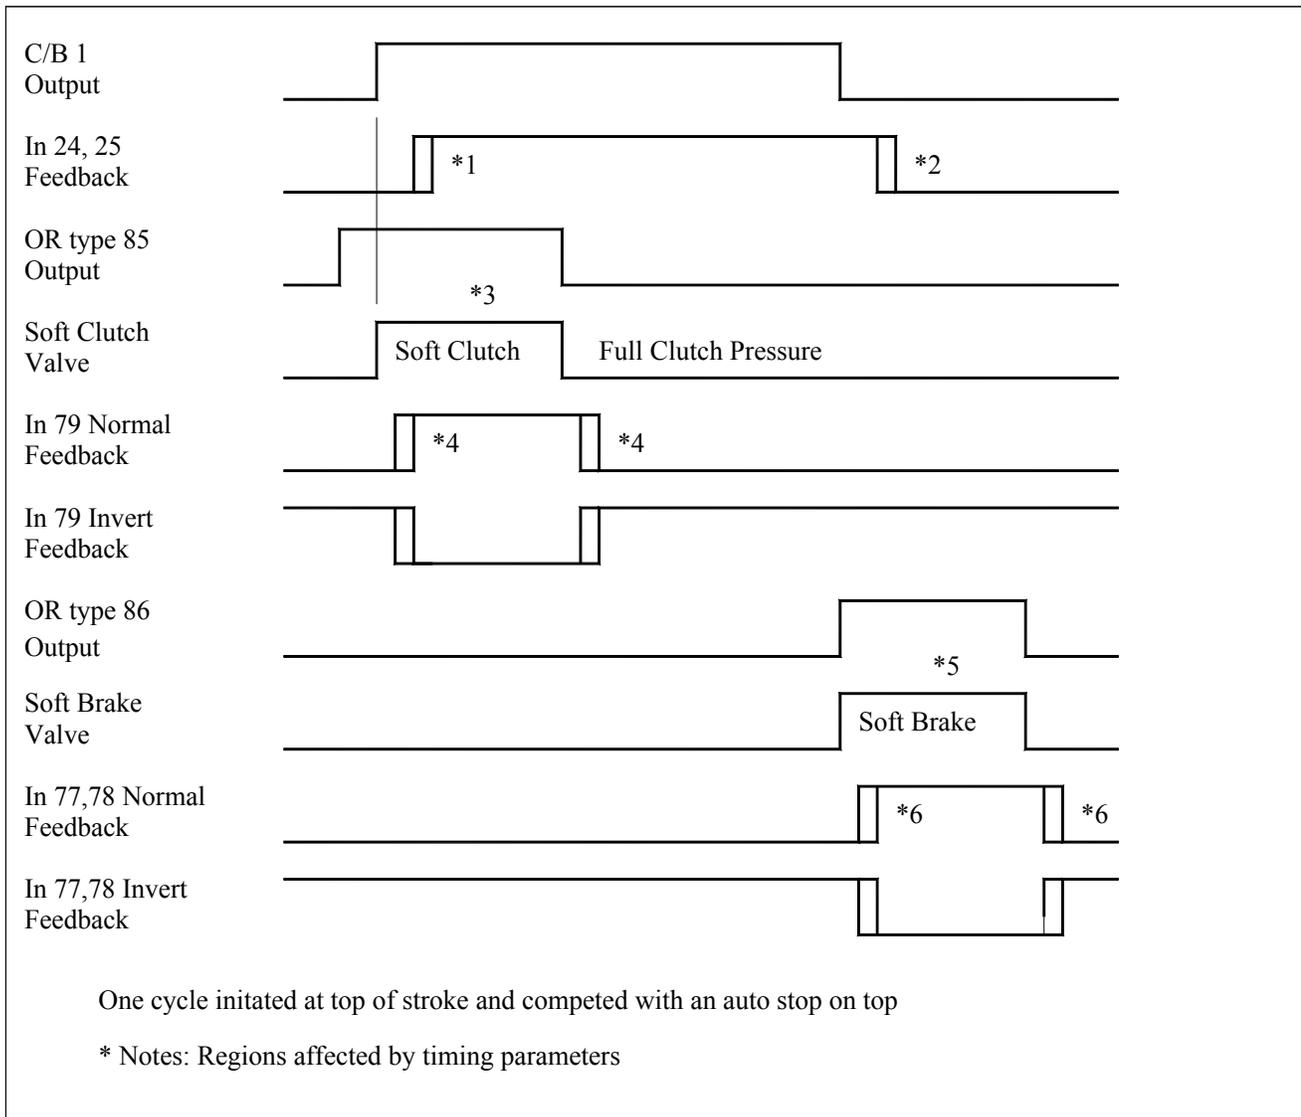
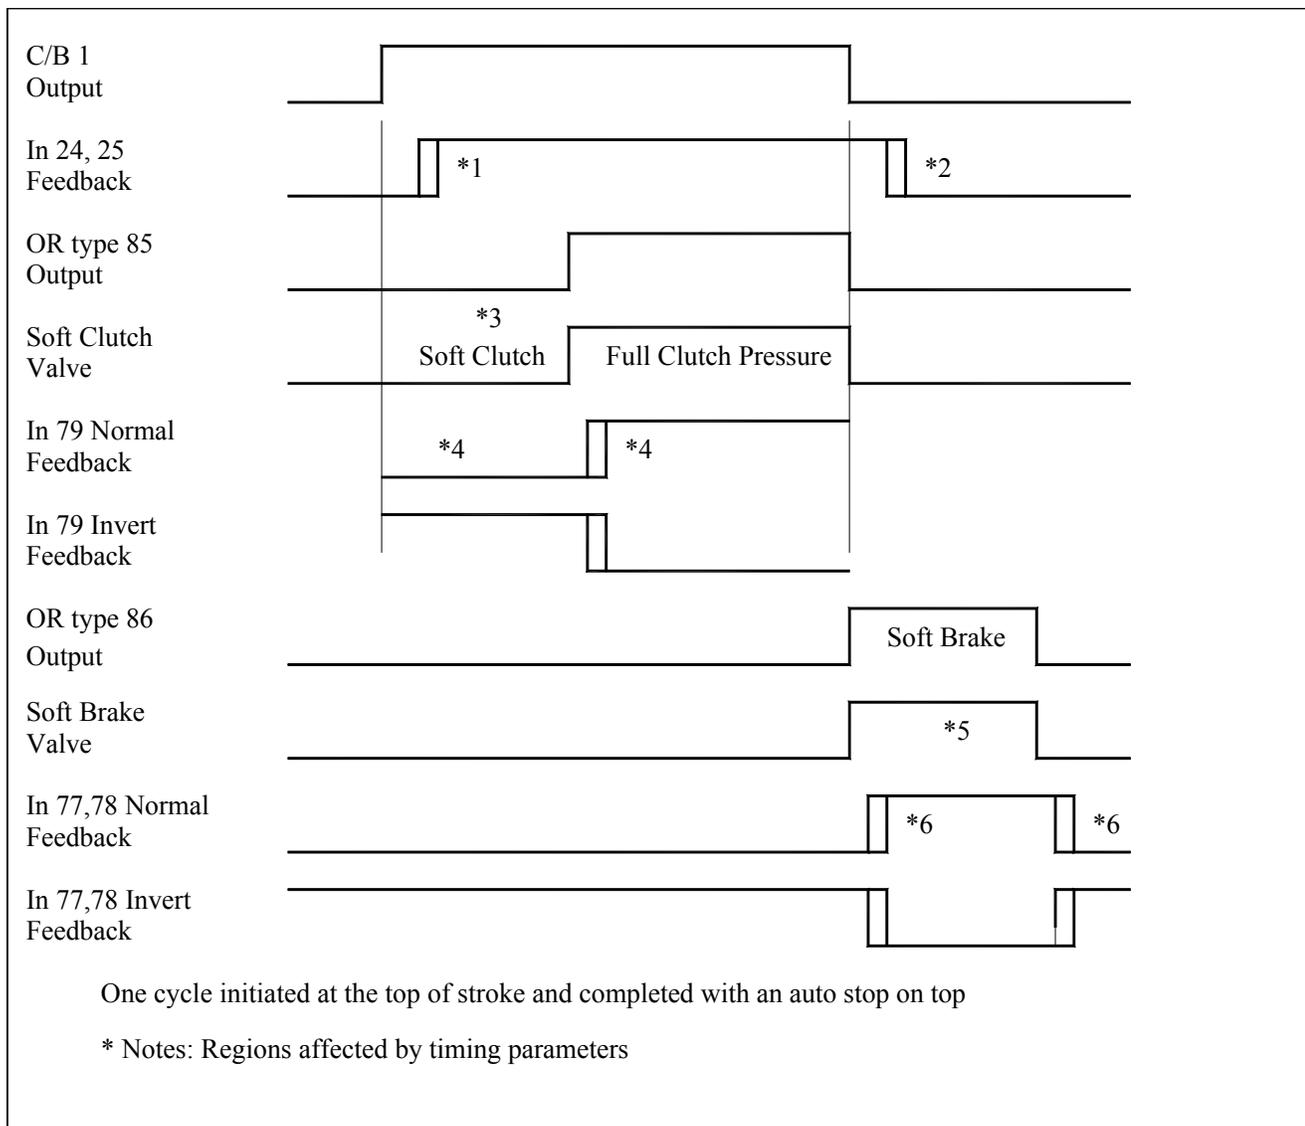
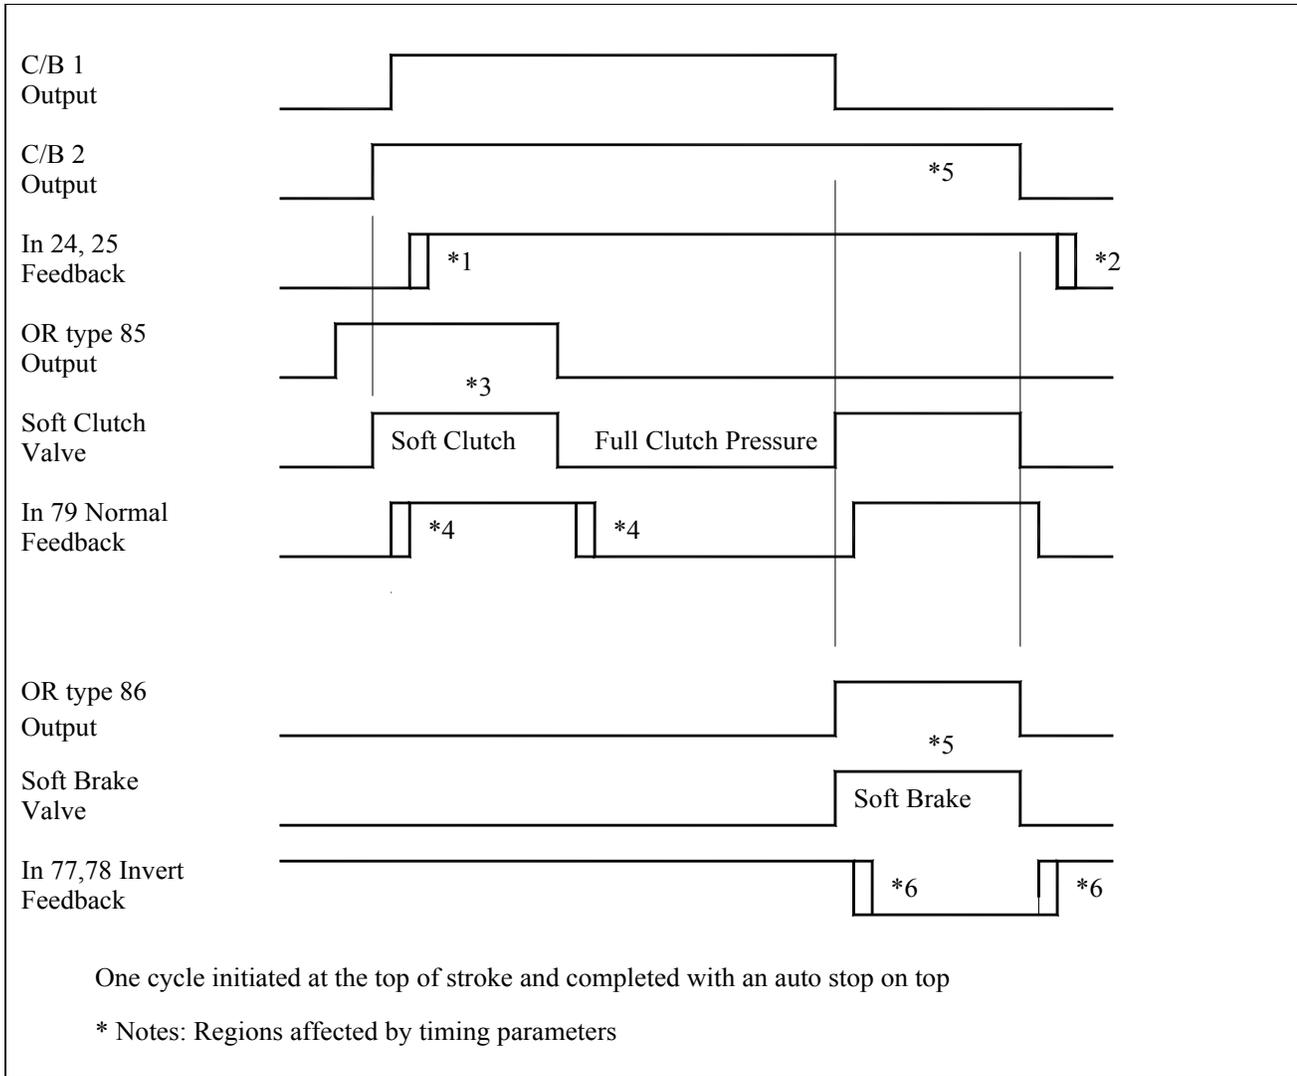

Figure 66: Soft Clutch Type 1 Timing with “Soft Brake Type” set to “Used”
Figure 67: Soft Clutch Type 2 Timing with “Soft Brake Type” set to “Used”
Figure 68: Soft Clutch Type 3 Timing with “Soft Brake Type” set to “Used”
This type of valve requires Clutch/Brake Output 1 to turn on the dual solenoids at engagement. The valve has proximity sensors on both poppets. Valve Monitor Type 1 is used to monitor the sensors. The valve monitor provides programmable feedback timers for valve turn on and valve turn off (see Section 4.2.4). The valve has an additional solenoid that is energized for soft clutch (see Figure 66). If a stroke is initiated in modes that perform soft clutch and initiation occurs above the “Soft Clutch Disable Point”, output type 85 will turn on about 100mS prior to the C/B 1 output turn on. The output will remain on for a programmable “Soft Clutch “On” Time” after C/B 1 turns on. The combination of Output Relay Type 85 and C/B 1 is required to energize the soft clutch solenoid. Output Relay Type 85 will turn off to command full clutch pressure for the remainder of the stroke. Modes that do not perform soft clutch include Inch, Timed Inch, Bar, Micro Inch, and Clutch/Brake Test mode.
*** Notes for Figure 66: These regions are affected by the following time parameters.**
This type of valve requires Clutch/Brake Output 1 to turn on the dual solenoids at engagement. The valve has proximity sensors on both poppets. Valve Monitor Type 1 is used to monitor the sensors. The valve monitor provides programmable feedback timers for valve turn on and valve turn off (see Section 4.2.4). The valve has an additional solenoid that remains off at engagement to soft clutch and turns on to command full clutch pressure (see Figure 67). If a stroke is initiated in modes that perform soft clutch and initiation occurs above the “Soft Clutch Disable Point”, Output Relay Type 85 will remain Off for a programmable “Soft Clutch “On” Time” after C/B 1 turns on. The combination of Output Relay Type 85 and C/B 1 is required to energize the soft clutch solenoid. Output Relay Type 85 will then turn On to command full clutch pressure for the remainder of the stroke. Modes that do not perform soft clutch include Inch, Timed Inch, Bar, Micro Inch, and Clutch/Brake Test mode.
*** Notes for Figure 67: These regions are affected by the following time parameters.**
*** Notes for Figure 68: These regions are affected by the following time parameters.**
This parameter defines how the soft clutch is monitored, if the valve has a sensor for feedback. If no sensor exists, the parameter should be set to “0: None” and no feedback monitor is performed. Type “1: Normal (Active Hi)” feedback should be used if the sensor switches high when Output Relay Type 85 and C/B 1 are both ON. Type “2: Inverted (Active Lo)” feedback should be used when the sensor switches high when Output Relay Type 85 is off while C/B 1 is on (see Figure 66, Figure 67, and Figure 68).
This parameter defines the amount of time that the soft clutch will engage at stroke initiation. Note that some types of soft clutch valves require an output to energize a solenoid during this time (see Figure 66). Other types require an output to remain off until this time has expired (see Figure 67). The time is programmable from 20 milliseconds to 600 milliseconds in increments of 10 milliseconds.
This parameter configures the soft brake operation. If configured as “0: Not Used”, the soft brake Output Relay Type 86 will remain Off and inputs 77 and 78 are configurable inputs. If “Soft Brake Type” is configured as “1: Used”, Inputs 77 and 78 are designated as feedback inputs and cannot be used for any other function. The soft brake Output Relay Type 86 turns On only during an automatic stop at top when C/B 1 turns Off at the speed advanced top stop point (see Figure 66, Figure 67, and Figure 68). Soft brake is not performed in Bar, Micro Inch, Clutch/Brake Test, or Setup/Stop Time Test modes.
This parameter defines the maximum amount of time that the soft brake Output Relay Type 86 remains On when used with “Soft Clutch Type” set to “1: ON at Start” or “2: OFF at Start” (see Figure 66 and Figure 67). The soft clutch output will turn Off before this time expires when crankshaft velocity goes below 2rpm. The time is programmable from 20 milliseconds to 600 milliseconds in increments of 10 milliseconds. This parameter is not used when “Soft Clutch Type” is set to “3: ON at Start and during Soft Brake”.